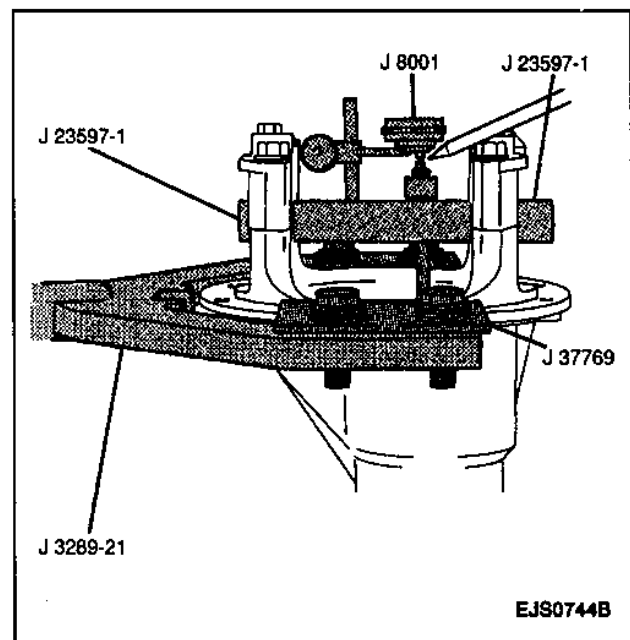

Figure 74—Setting Dial Indicator Position
9. Install a J 8001 to the J 23597-1 and position the gage plunger over the plunger extension and slightly load the indicator (Figures 74 and 75).